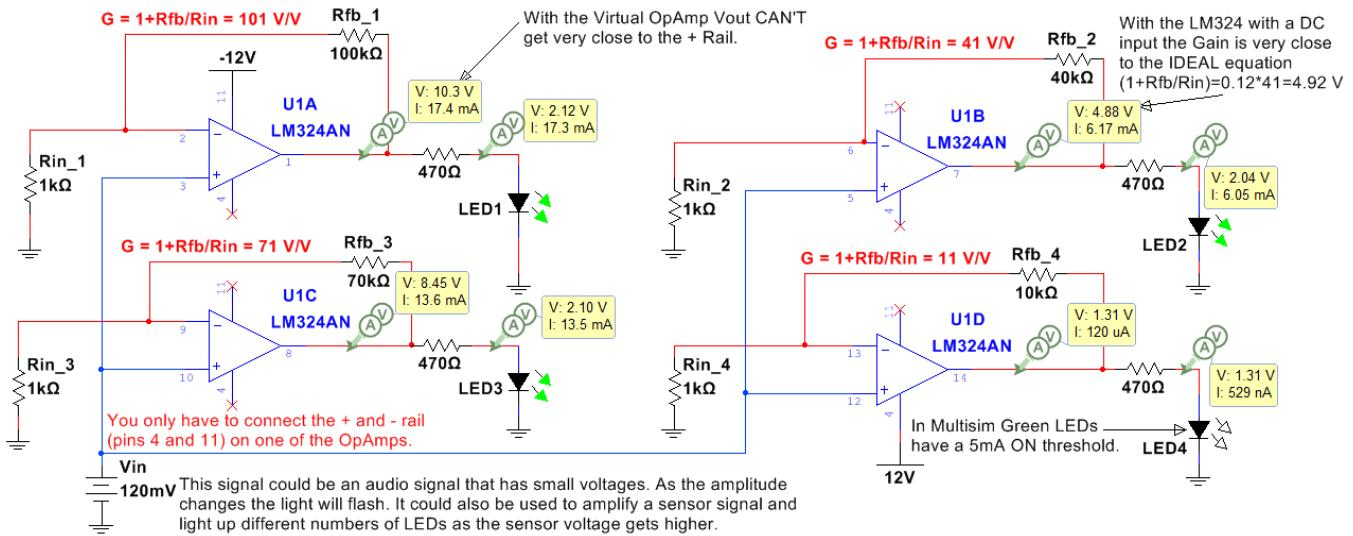
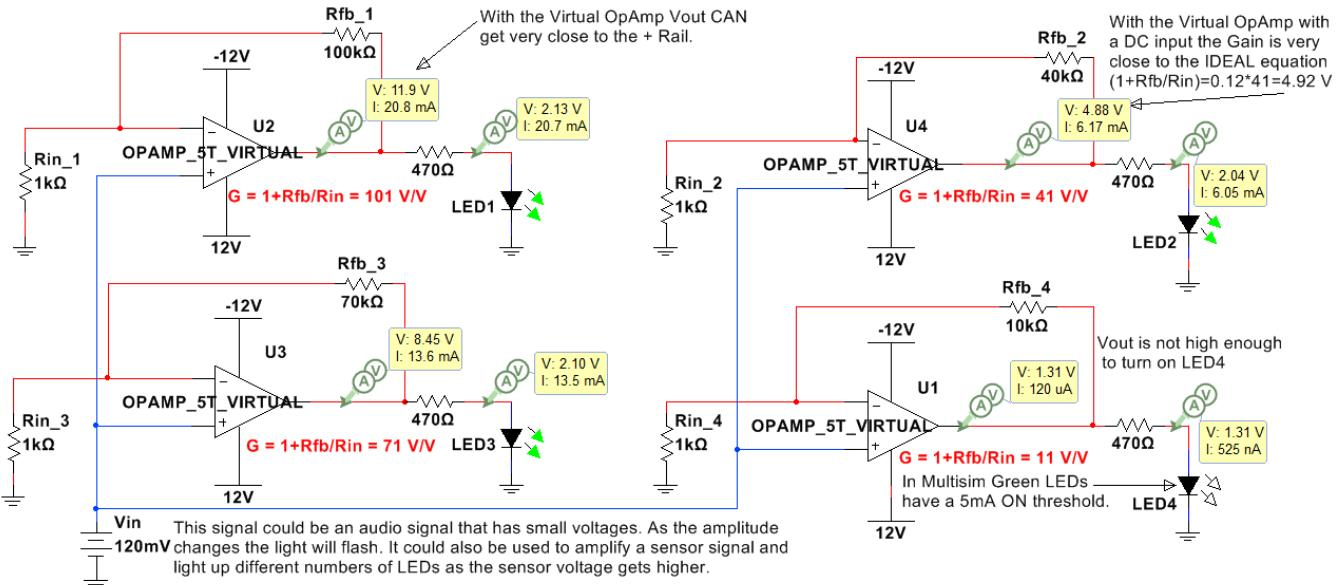
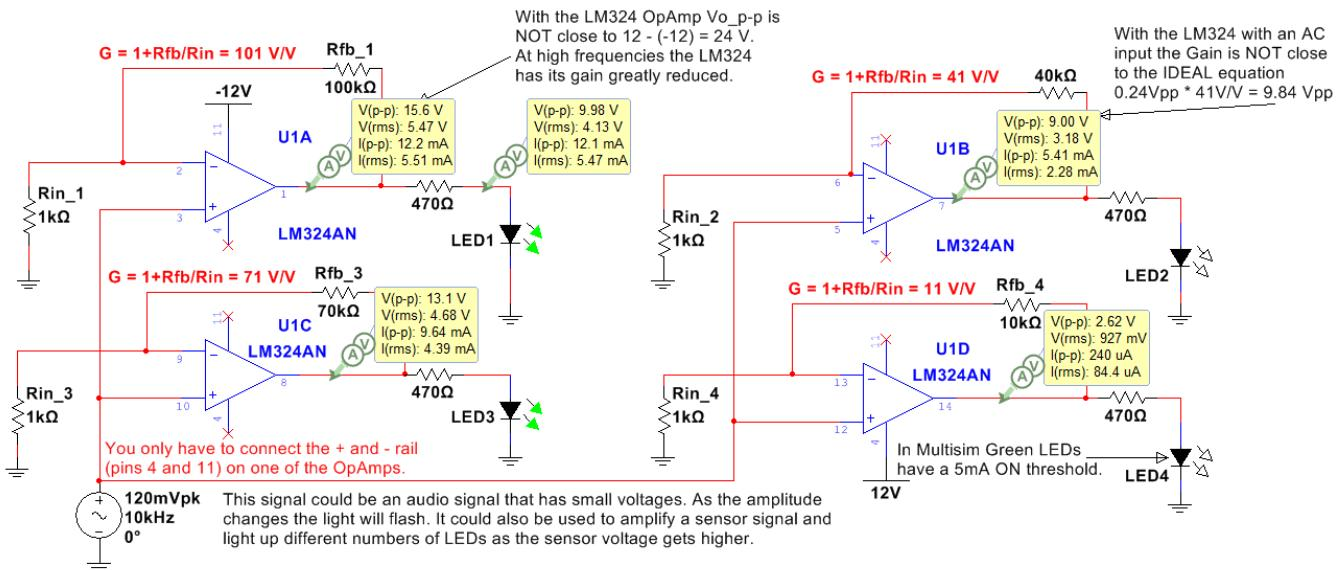
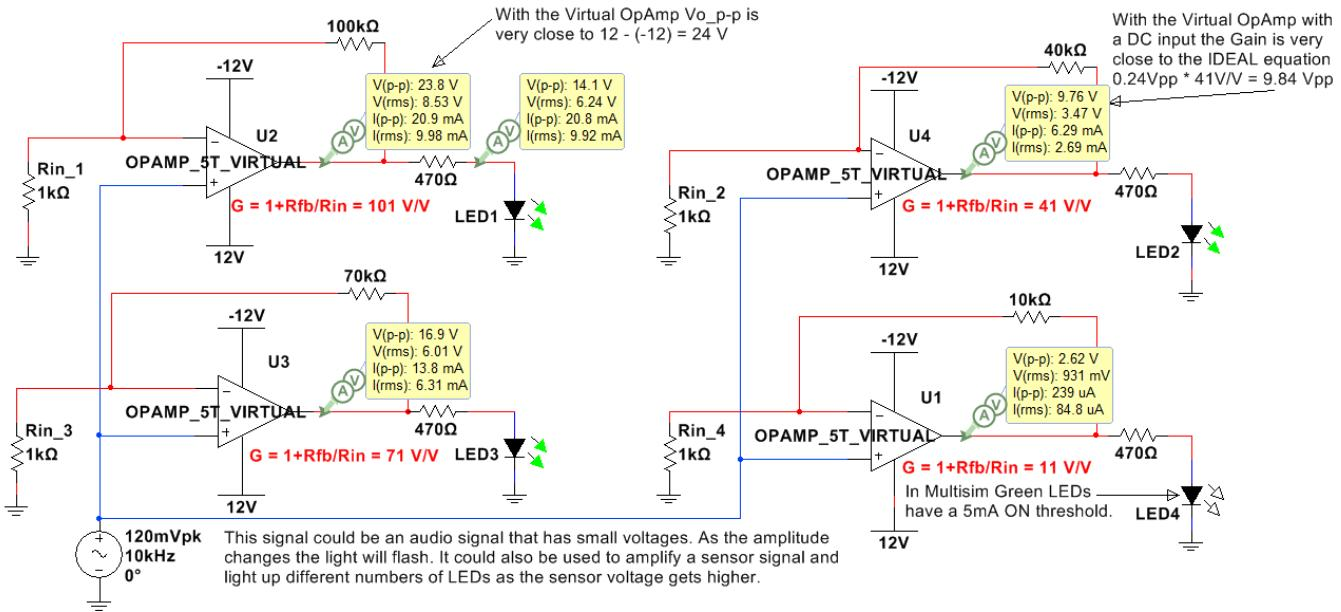

Figure 7.9: Non-Inverting Configuration Example that uses all 4 of the LM324 OpAmps with a DC input.
Figure 7.10: The circuit in Figure 7.9 with the OpAmps replaced with the Virtual 5 Terminal OpAmp.
Figure 7.11: Example circuit that uses all 4 of the LM324 OpAmps with an 10 kHz AC input.
Figure 7.12: The circuit in Figure 7.11 with the OpAmps replaced with the Virtual 5 Terminal OpAmp.
For this section the **OPAMP\_5T\_VIRTUAL** part in Multisim will also be used for all circuits except the one in Figure 7.9 and Figure 7.11. Those circuits are built using the LM324 that was described in Figure 7.1.
The circuits in Figures 7.9 to 7.12 include four OpAmps and is used to amplify a signal at four different gains and turn on LEDs. Figure 7.9 shows has a DC input voltage and shows how all 14 of the LM324 quad OpAmp would be implemented for this circuit and Figure 7.10 shows the results if the LM 324 is replaced with four virtual OpAmps (OpAmp\_5T\_Virtual). The green LED has an adjustable current threshold. By double clicking on the LED in Multisim the threshold can be changed. The 5 mA default is used in all of the figures in this eBook. For the circuits in Figure 7.9 and Figure 7.10 with a DC input of 120 mV all OpAmps source enough current to turn on the LEDs except the OpAmp connected to LED4. The 470 Ω resistor is used to limit the current through the LEDs to around 20 mA, which is a common current rating for many types of LEDs. When the input is a DC voltage the results are nearly identical for the LM324 (Figure 7.9) and the virtual OpAmp (Figure 7.10). The only significant difference can be seen in the output of the top left OpAmp that is connected to LED1. It has a gain large enough to saturate the OpAmp. **Saturating** the OpAmp (also commonly referred to as clipping) occurs when your output is limited by the rail voltage. The Virtual OpAmp allows Vout to go very close to the positive 12 V rail, but the LM324 limits the voltage to 10.3 Volts in this example.
For DC input signals, the closed loop gain ( $G = V_{out}/V_{in}$ ) is usually very close to the Ideal OpAmp gain (Equations 7.2 and 7.3 for the inverting and non-inverting OpAmp configurations respectively) for all types of OpAmps because the open loop gain ( $A_0$ ) is always an extremely large value (e.g. 200,000 V/V for the Virtual OpAmp in Figure 7.3), but in reality  $A_0$  and  $G$  are reduced as the frequency increases once the frequency reaches the OpAmps internal 3dB frequency (which usually occurs at low frequencies). For example, the 3dB internal frequency for the LM324 is approximately 30 Hz when  $V_{cc} = 15 \text{ V}$  and  $\sim 80 \text{ Hz}$  when  $V_{cc} = 30 \text{ V}$  as shown in Figure 5 of the LM324 datasheet. The ideal closed loop gain equations are modified for the situation where  $A_0$  is NOT assumed to be infinity and are shown in Equation 7.4. When the signal is a high frequency sinusoid then the  $V_{out}$  is greatly reduced in the LM324 (Figure 7.11), but not in the Virtual OpAmp (Figure 7.12) because the Virtual OpAmp assumes  $A_0$  remains at 200,000 V/V for all frequencies.
- **Closed loop voltage gain (G)** is equal to  $V_{out}/V_{in}$  when a feedback resistor ( $R_{fb}$ ) is connected from the output pin of the OpAmp to the inverting (-) terminal of the OpAmp as shown in the circuits in Figure 7.9 to 7.12. If  $R_{fb}$  is replaced with a wire (or  $R_{fb} = 0 \Omega$ ) the gain is equal to 1 V/V for the non-inverting configuration and 0 V/V for the inverting configuration.